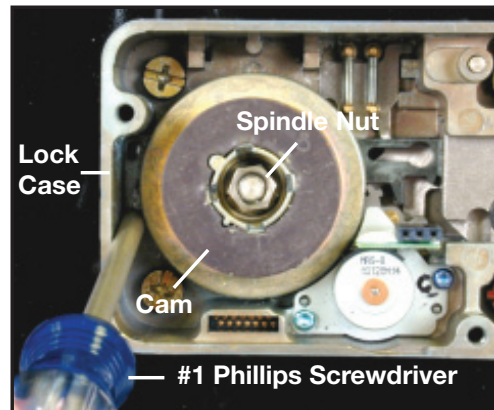

Figure 20 - Secure Drive Cam
**Service Tip:** *If it becomes necessary to remove and reinstall the spindle nut during lock installation or maintenance, the drive cam can be secured by **carefully** placing a #1 Phillips screwdriver between the cam and the lock case. (See Figure 20.)*